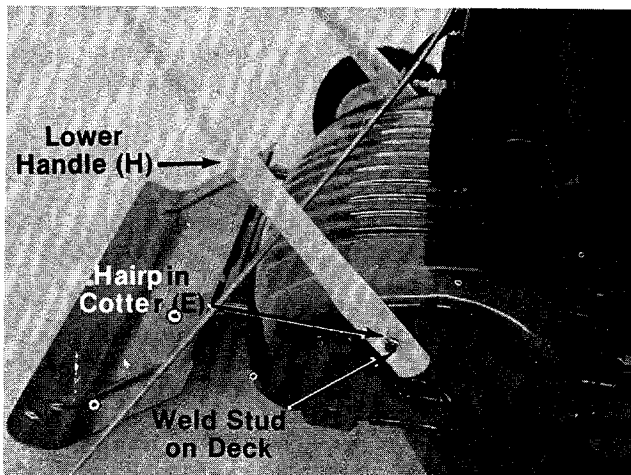

FIGURE 3.
- ← 3. Place **TOP SLOTTED** hole in lower handle (H) over studs located in front of each rear wheel. Secure with hairpin cotter (E) provided in hardware pack. See figure 3.
Figure 3 was photographed with the rear wheel removed for clarity. It is not necessary to remove wheel for handle assembly.
Adjustment may be made by removing and moving axle bolts to desired position. Cutting heights will be raised as axle bolts are moved to a lower hole and lowered as axle bolts are moved to a higher hole in the deck. All axle bolts must be mounted in the same relative position. See figure 3.